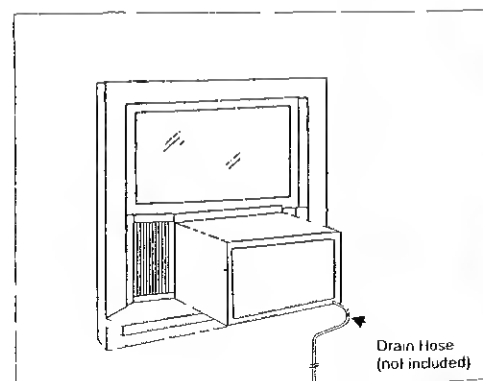

Fig 19
G A drain connection (excluding hose) is provided. If you need to redirect condensation overflow, see (Fig. 19 on Page 11).
- C. In very humid areas, the water removal may be excessive enough to overflow the unit or increase the noise of the air conditioner. If this occurs, you may wish to attach a drain hose (not included) to the drain plug allowing condensations to run off conveniently. See (Fig 19)